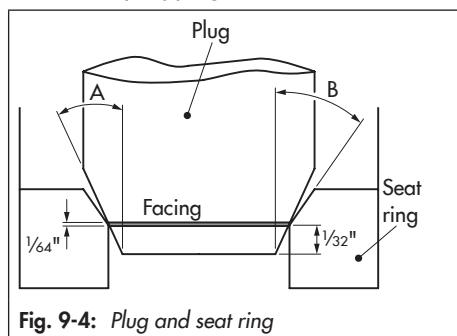

Fig. 9-4: Plug and seat ring
1. Place the seat ring with the gasket into the valve body. Observe the proper position and alignment. The surface sloping by approx. 20° is the seat of the plug and must face towards the valve bonnet (see Fig. 9-4, angle B).
8. Place the seat ring with the gasket into the valve body. Observe the proper position and alignment. The surface sloping by approx. 20° is the seat of the plug and must face towards the valve bonnet (see Fig. 9-4, angle B).